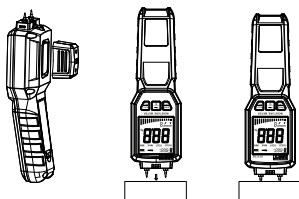

Figure 3
- 3) Detach protective cover and silicone sleeve, store cover in rear compartment (Figure 3).
- 4) Insert the product probe vertically into the object to be inspected, and the maximum insertion depth is the probe limit position (Figure 3).